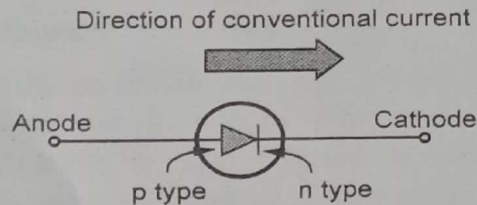

Fig. Q.3.1 Symbol of a diode
- Its symbol is shown in the Fig. Q.3.1. The arrowhead in the symbol indicates the direction of the conventional current which can flow when an external voltage is applied in a specific manner across the diode.